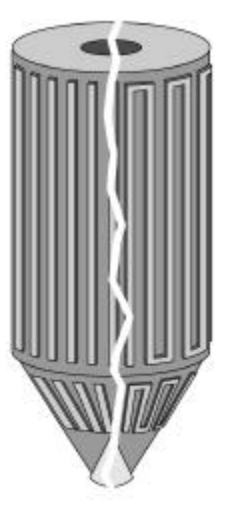

Figure 11.22 Silo can be equipped with either hot oil piping or electric heat strips.
- § **Heated Side Walls** - Hot-oil heat piping or electric heat strips can also be added to the silo side walls, as shown in Figure 11.22, to keep the mix warm by replacing any heat that radiates from the silo walls to the atmosphere.